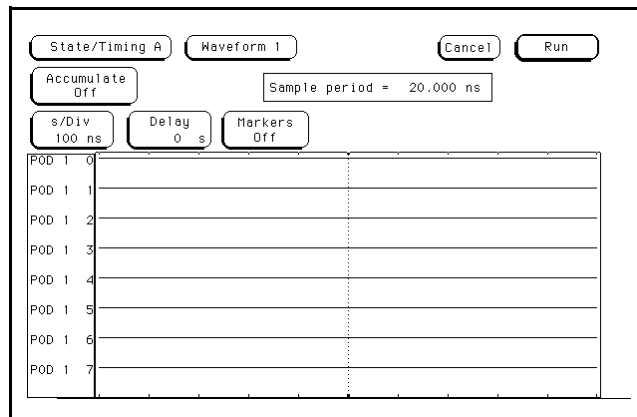

Figure 3-42. Waveform Screen
6. Touch **Run**, then drag finger to **Single**. Data displayed on Waveform screen should be high for the pod under test. See figure 3-42.
11. Touch **Run**. Data displayed on the Waveform screen should be all high for the pod under test as in previous figure 3-42.
16. Touch **Run**. Data displayed in the Waveform screen should be all high for pod under test as in figure 3-42.